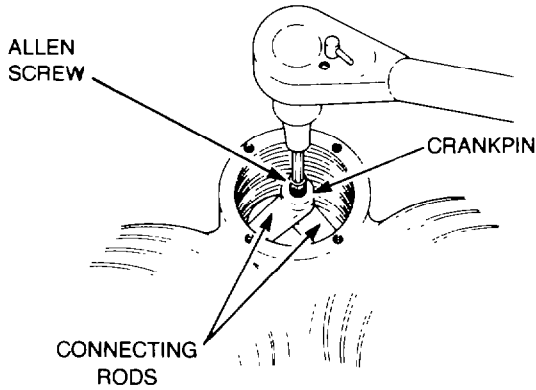

Figure 3 — Crank-pin — Removal
- e. Suitably clamp the crankshaft in a vice fitted with soft jaw clamps, and remove the Allen screw securing the crank-pin (see Fig. 3). Using suitable pliers, remove the crank-pin.